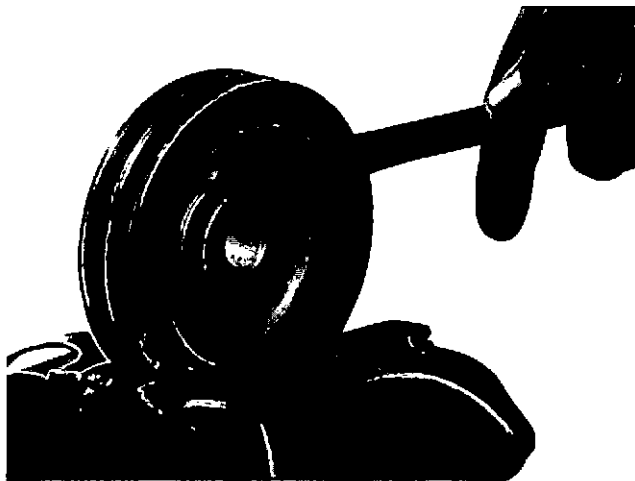

Fig. 8-42 (N10883). Remove The Wear Sleeve From The Pulley.
- b. Use a chisel to push the sleeve from the pulley, Fig. 8-42.